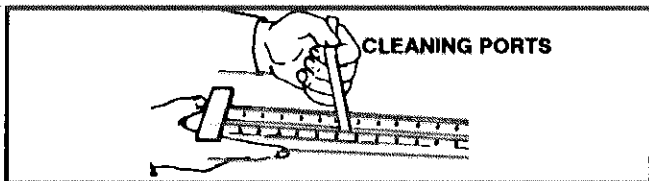

FIGURE 30
- 14— Clean burner ports by inserting a cleaning tool (made from a piece of sheet metal cut to fit the burner ports) and work in and out of each port. See figure 30.